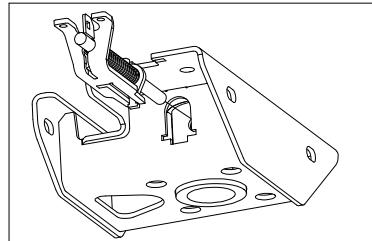
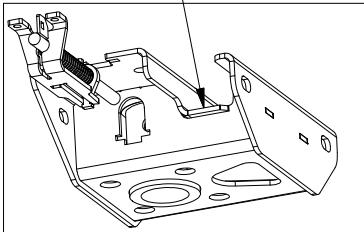
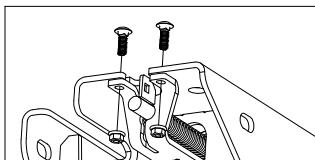

Figure C1: Short bed installation.
Figure C2: Long bed installation.
Figure C3: Latch pin assembly (short bed installation).
- Assemble the center section.** Before the center can be installed the latch pin assembly needs to be attached to the center section. When installed, the latch pin assembly must be positioned so the handle will be on the driver side of the truck. For short bed trucks installing the latch pin assembly on the driver side will put the bed cross member cutout towards the cab, see Figure C1. On 8' bed trucks installing the latch pin assembly on the driver side will put the bed cross member cutout towards back of the truck, see Figure C2. To assemble, locate the center section and the latch pin assembly. Pass the end of the latch pin assembly through the hole in the ball socket inside the center section, as shown in Figure C1 & C2. While pushing the latch pin assembly firmly against the socket, align the two mounting holes in the pin assembly and secure with two 5/16" X 1" carriage bolts and flange nuts, as shown in Figure C3.